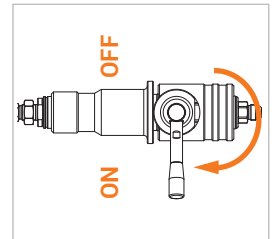

Figure 4
- ▶ Turn the actuation lever (Pos. 3) on the fueling nozzle through 180° to the ON position (*Figure 4*).